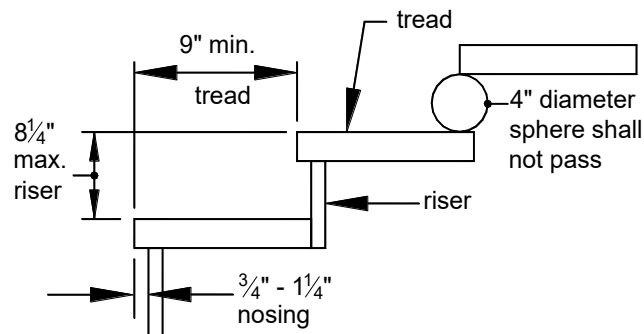

FIGURE 17: TREADS AND RISERS
- Stair geometry and opening limitations shall meet the requirements shown in FIGURE 17. Treads, risers and nosing dimensions shall not deviate at each step by more than $\frac{3}{8}$ inches.